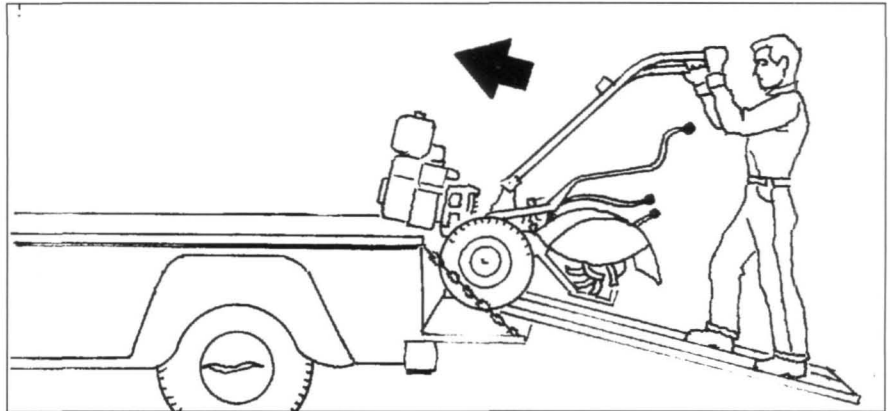

Figure 4-10: To go up ramps, use FORWARD drive.
4. **To go up ramps**, use FORWARD drive and follow the tiller up the ramps (Figure 4-10).